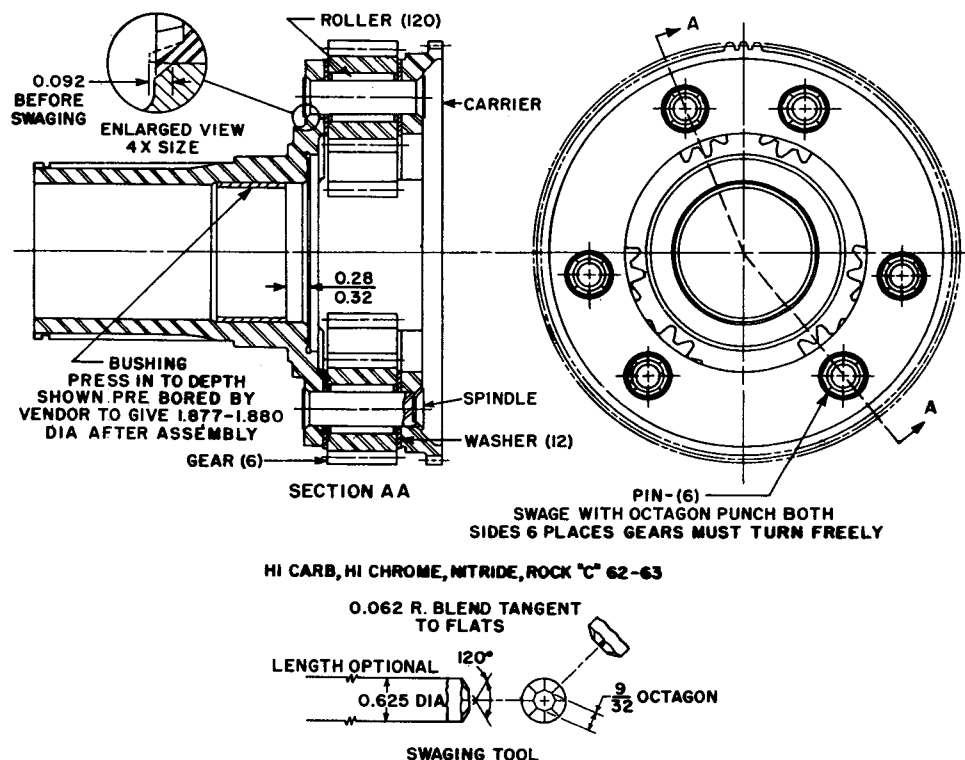

Fig. VI-19. Forward planetary carrier assembly—cross section
(15) If the six dowel pins were removed from anchor 17, install new pins by placing anchor 17, flat side up, on a press bed.
(16) Coat the pin holes with white lead and press six pins into anchor 17 until they project 0.960 inch above the flat surface of the anchor.
a. Disassembly (B, foldout 9, and fig. VI-19)
(1) Position the carrier assembly 5 (B, foldout 9), hub upward, on a drill press table.
(2) Using a 1/2-inch twist drill, centered accurately, drill the end of each pinion pin 11 to weaken the staking.
c. Assembly (B, foldout 9, and fig. VI-19)
(1) If bushing 7 (B, foldout 9) was removed, press a new bushing into the carrier to the 0.28 to 0.32 dimension shown in fig. VI-19.
(2) Make a pinion alining tool by grinding or turning a chamfer on one end of a 6-inch length of 1/2-inch, cold-rolled steel.
(3) Coat the bore of each pinion 9 (B, foldout 9) with oil-soluble grease.
(4) Holding the alining tool in one hand, install a thrust washer 10 and then a pinion 9 onto the alining tool.
(9) Repeat procedures (4) through (8), above, for the remaining pinion groups. Aline the pinion groups in the carrier by inserting the alining tool in each spindle bore.
(10) Press new spindles through the carrier and pinions until they project 0.092 inch from the inner ends of the countersinks in the pinion bores at the rear of the carrier (see inset detail of fig. VI-19).
(11) Stake both ends of the spindles into the countersinks of the carrier. Refer to fig. VI-19 for details of fabricating the staking punch.
(12) Install seals 14 and 16 (and expanders 21 and 22 on later models) onto forward piston 15. Refer to para 16c(12) through (14), above, for piston seal and expander installation.